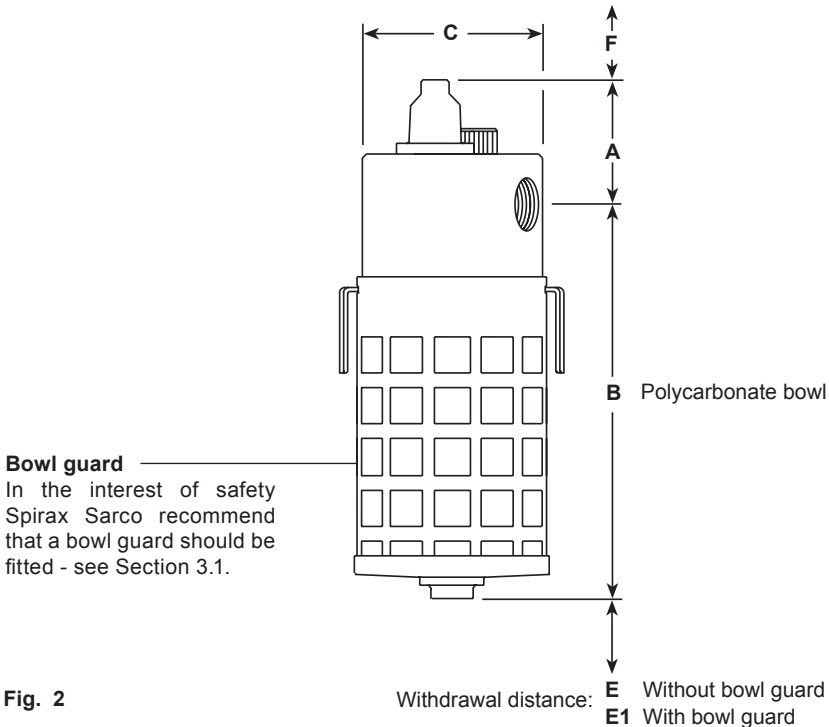

Fig. 2
- 3.3.2** Adequate space should be provided around the unit to allow easy access for routine servicing requirements (see Figures 2 and 3 for withdrawal distances).